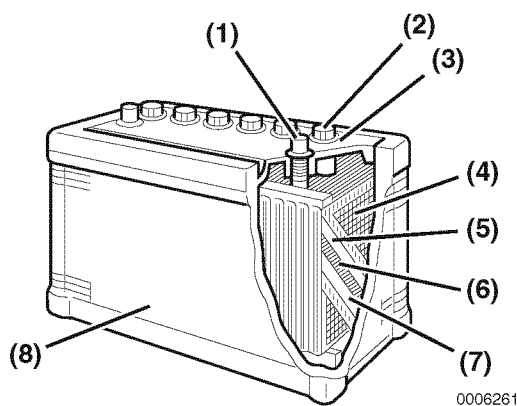

Figure 11-3
As shown in **Figure 11-3**, a non-conducting container is filled with dilute sulfuric acid electrolyte. Lead dioxide positive (+) plates (**Figure 11-3, (7)**) and lead dioxide negative (-) plates (**Figure 11-3, (5)**) separated by separator plates (**Figure 11-3, (6)**) are stacked alternately in the electrolyte. The positive (+) and negative (-) plates are connected to their respective terminals (**Figure 11-3, (1)**).